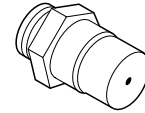

Figure 28
Step 8. Unscrew the orifice from the manifold and replace it with the one provided with the kit, #37 (0.104) for natural gas units and (0.065) for propane (see **Figure 28**).